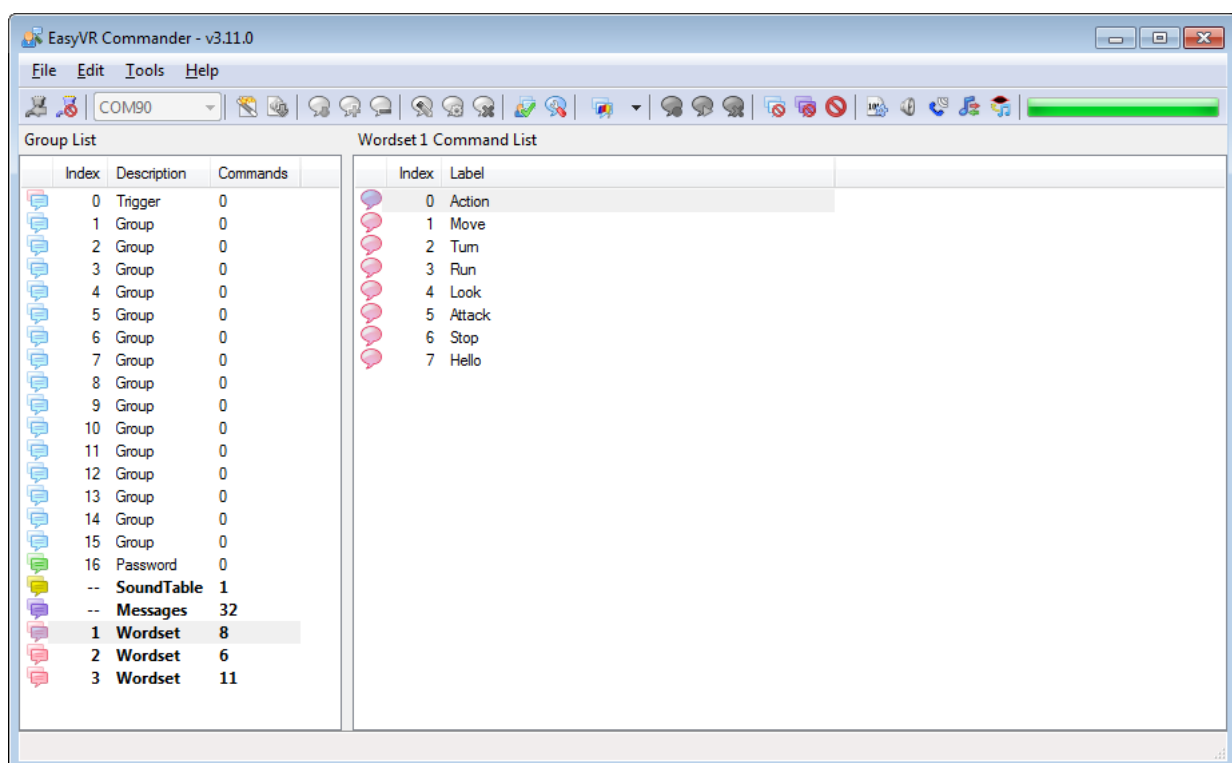

Figure 3 - Main application window
There are five kinds of commands in the software (see Figure 3 and Figure 7):
- **Password** - special group of "voice passwords" (up to 5), using Speaker Verification (SV) technology
- **Wordset** - built-in set of SI commands (for instance in Figure 3 above, the Wordset 1 is selected)